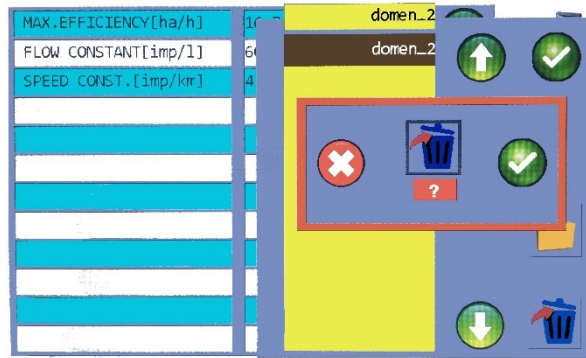

Figure 44
- By pressing  icon, we can also delete certain works (Figure 44).